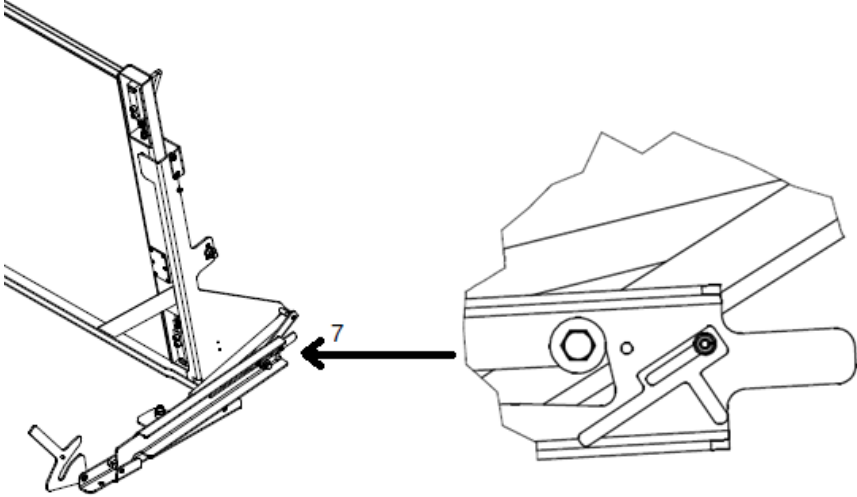
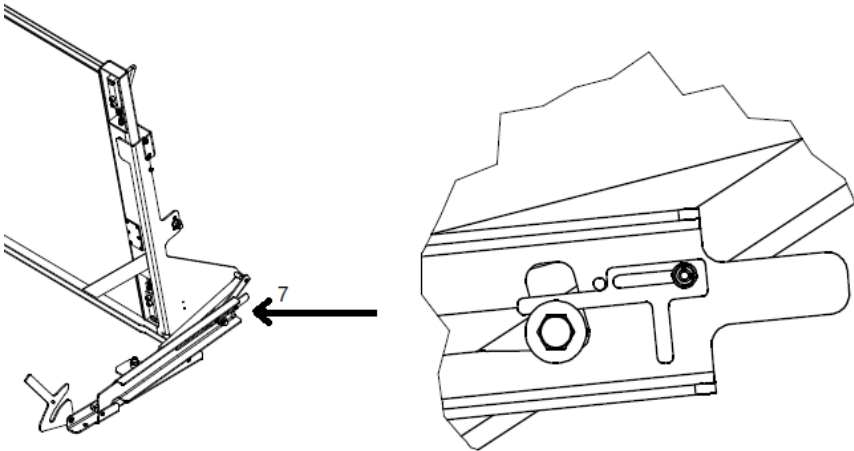

Fig.21. Platform locked in the upper position
Fig.22. Platform lock released
1. Release the lock (7) by changing its position (the position presented in Figure 21 has to be changed into position presented in Figure 22).